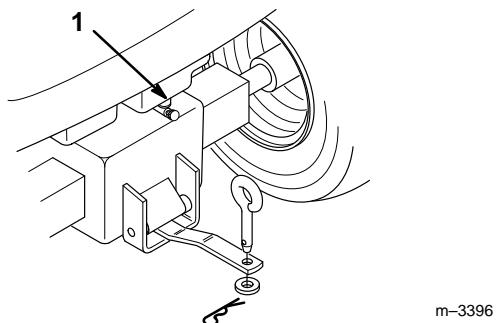

Figure 33
2. Close fuel shut-off valve at fuel tank (Fig. 33).